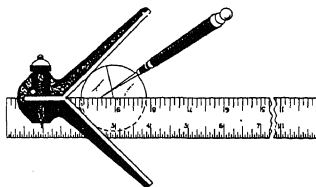
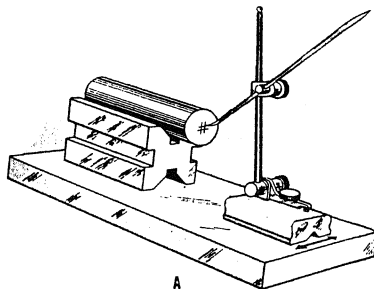

Figure 3-17.—Locating the center of round stock.
Figure 3-22.—Setting and using a surface gauge.
Use the center head and rule as illustrated in figure 3-17 to locate the center of round stock. To find the center of square and rectangular shapes, scribe straight lines from opposite corners of the workpiece. The intersection of the lines locates the center.
Part A of figure 3-22 shows a surface gauge V-block combination used in laying out a piece of stock. To set a surface gauge for height, first
of a combination square, as shown in B of figure 3-22. Secure the scale so the end is in contact with the surface of the plate. Move the surface gauge into position.
3. Locate the center of each flange with a surface gauge, or with a center head and rule combination, if the flange diameter is relatively small. (See part A fig. 3-22 and fig. 3-17.) After you have the exact center point located on each flange, mark the center with a sharp prick-punch.